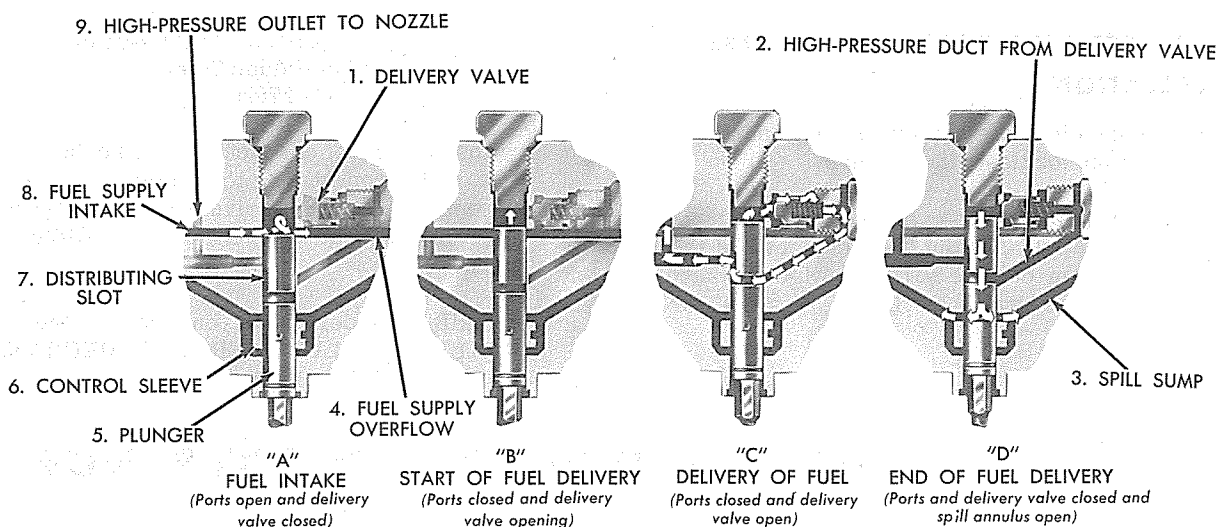

Fig. 21 — Fuel Injection Pump Pumping Cycles
Fuel enters the hydraulic head at the fuel supply intake, Fig. 21 (8) and fills the cavity at the top of plunger (5) when the plunger is at the bottom of its